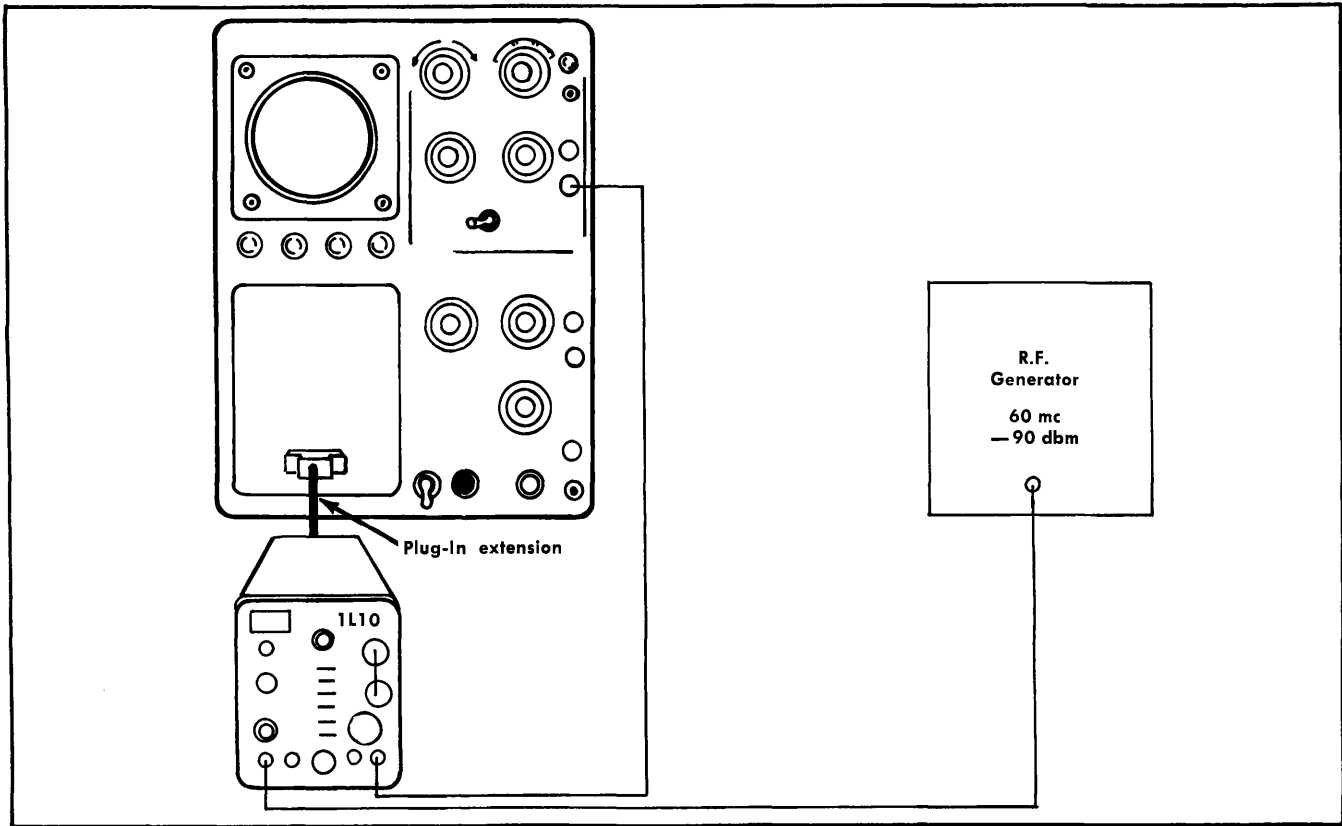

Fig. 4-11. Equipment setup for I-F stages alignment.
a. Connect the equipment shown in Fig. 4-11.